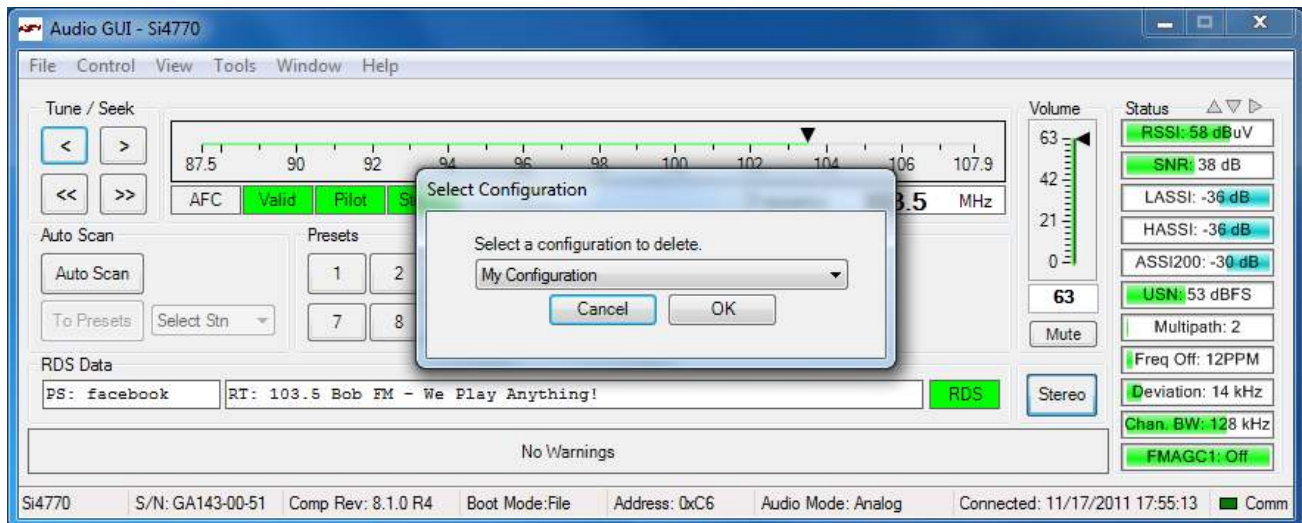

Figure 15. Selecting Configuration State to Delete
2. Click on Delete state and the Delete Configuration window shown in Figure 15 will pop up. Select the configuration state you want to delete and click OK.